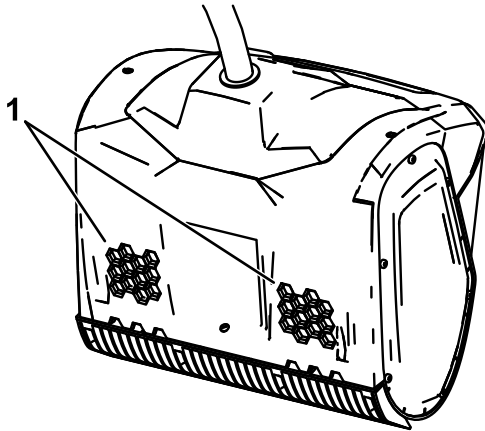

Figure 8
1. Ensure that the vents on the back of the machine are clear of any snow or ice (Figure 8).